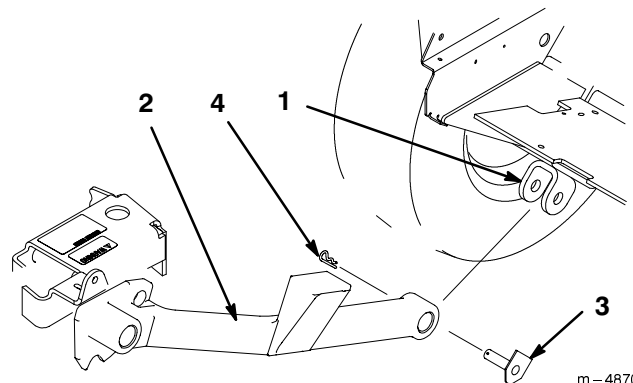

Figure 32
- Position carrier frame in front of traction unit and place push arms into clevises (Fig. 32).
- Install push arms with pivot pin assemblies, aligned with flat against frame, and secure with hairpin cotters (Fig. 32).